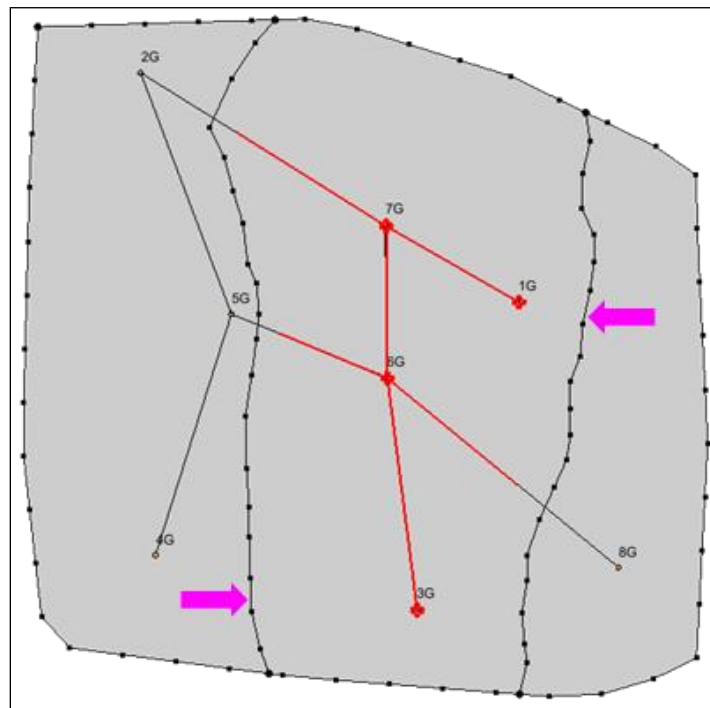

Figure 5 Arcs created in the Horizon 4 coverage
- Using the **Create Arc**  tool, create two arcs similar to those identified by the arrows shown in Figure 5. Notice that the arcs surround the red highlighting on the cross sections.